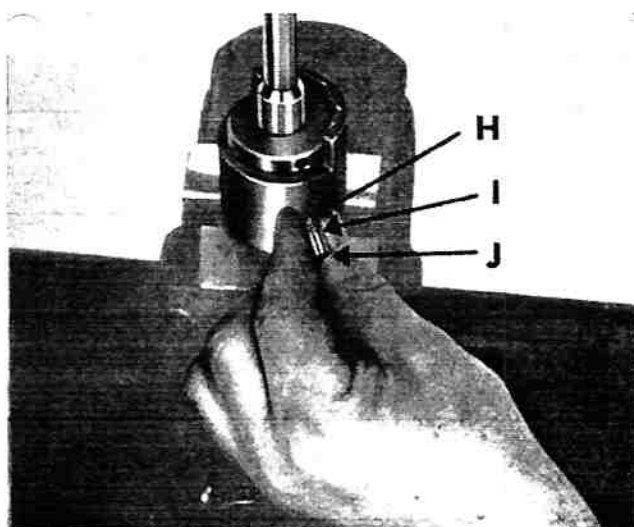

Fig. 72
Fit the circlip into its groove on the spindle, then turn the locator until the bore at the side which takes oval rivet (H), compression spring (I) and stop bolt (J) is exposed. Fit these parts in the sequence listed, then turn the locator until the stop bolt engages in the recesses for the inner housing stop. To mount the spindle, engage 2nd gear (fig. 72).